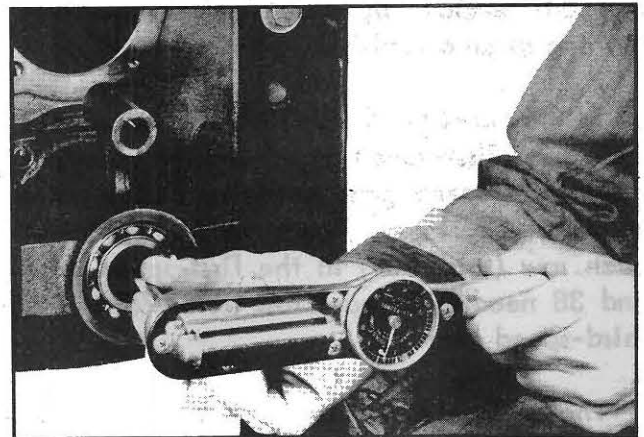

Fig. 243
4. Install some shims under the PTO housing and bolt the housing properly in place, torquing the cap screws to 24-28 pound-feet. Using a pound-inch torque wrench, and a 9/16 in. socket and extension, determine the torque required to turn the countershaft as shown in Fig.243. This torque should be 7-12